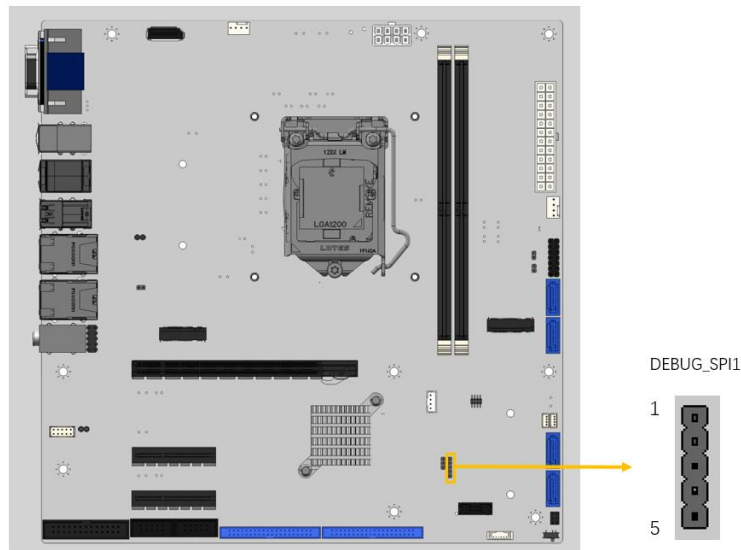

Figure 3-9: EC Debug Connector Location
- CN Location:** See Figure 3-9